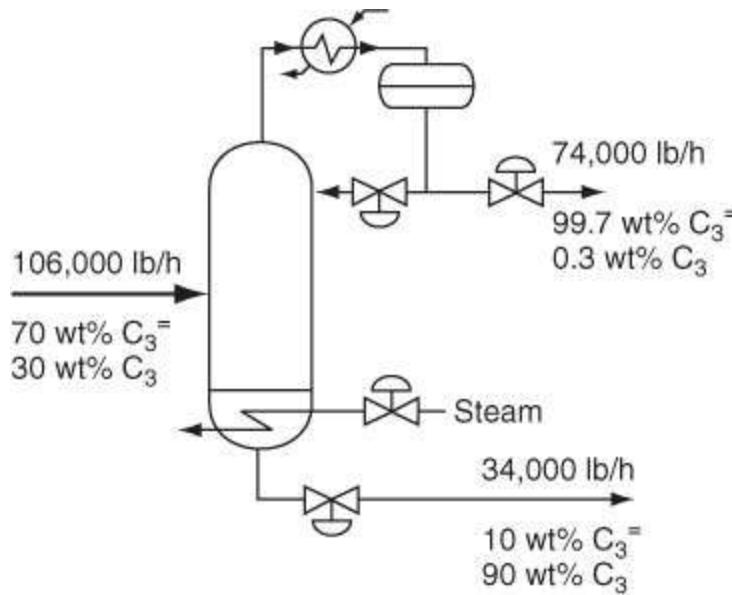

Figure P3.1.20
****3.1.20.** Distillation columns are used to separate light boiling components from heavier boiling components and make up over 95% of the separation systems for the chemical process industries. A commonly used distillation column is a propylene-propane splitter. The overhead product from this column is used as a feedstock for the production of polypropylene, which is the largest quantity of plastic produced worldwide. Figure P3.1.20 shows a diagram of a propylene-propane splitter (C_3 refers to propane and C_3^- refers to propylene). The steam is used to provide energy and is not involved in the process material balance. Assume that the composition and flow rates listed on this diagram came from process measurements. Determine if the overall material balance is satisfied for this system. Evaluate the component material balances as well. What can you conclude?